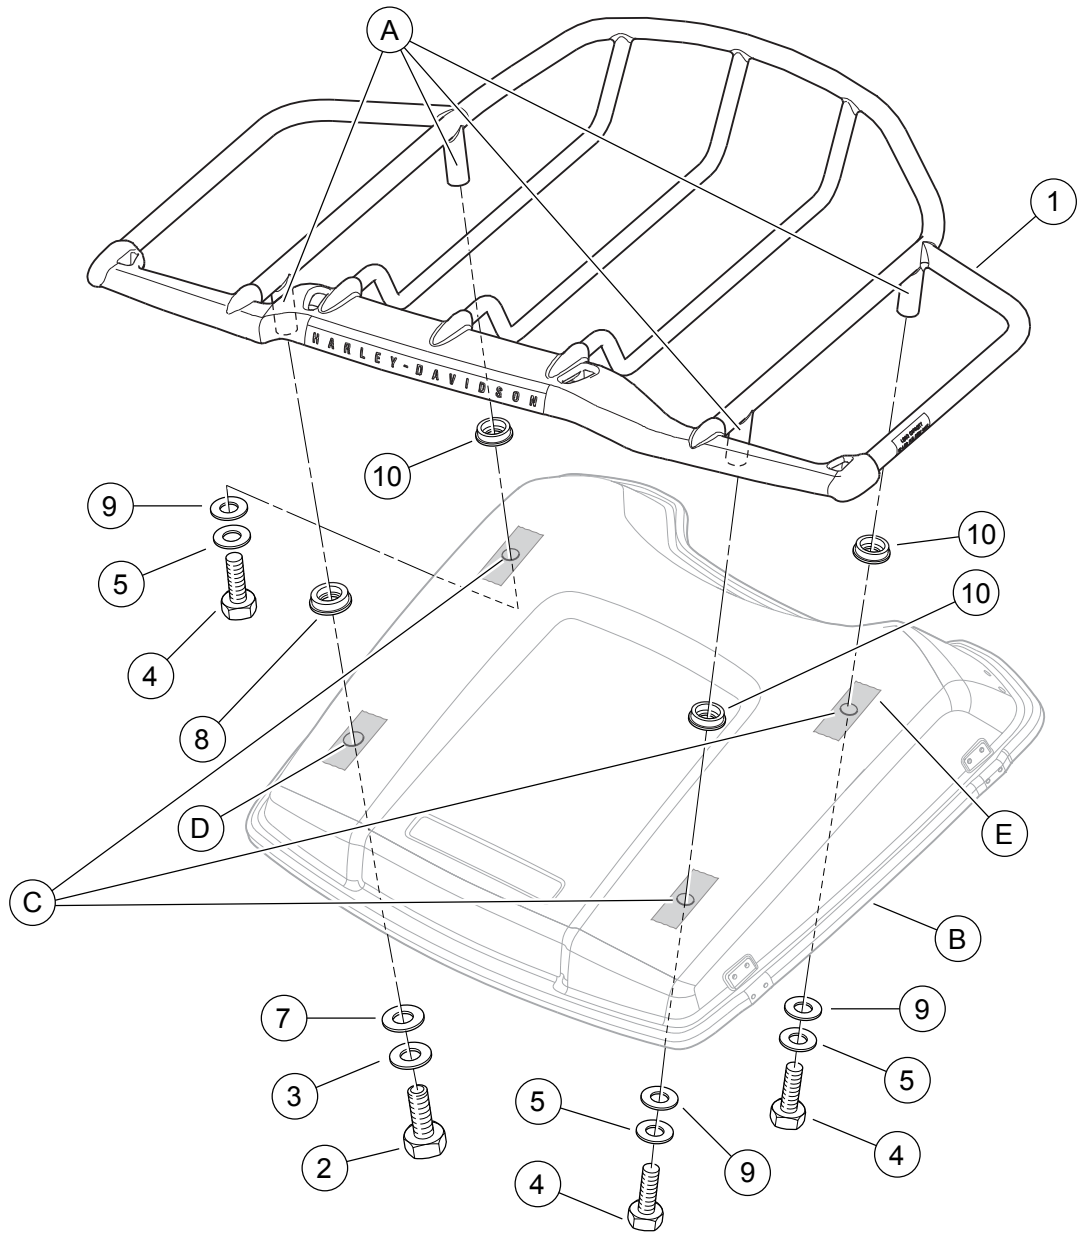

Figure 1. Service Parts, Air Wing Tour-Pak Lid Rack
See Figure 1 and Table 1.
2. See Figure 1. Slip the **larger diameter** mounting pad (8) onto the left-rear leg. Slip the three **smaller diameter** mounting pads (10) onto each of the remaining mounting legs (A). With the Harley-Davidson name to the rear, position the rack on the Tour-Pak lid in the desired location.
4. Apply masking tape (E) to the Tour-Pak lid where the four mounting pads (A) contact the lid. Position the rack on the lid in the same location as in the previous step. Using a soft lead pencil on the masking tape strips, trace a circle around each mounting pad. Remove the rack. Use a ruler to mark the exact center position of the mounting pads on the tape.
5. Drill four 1/16 in (1.5 mm) diameter pilot holes through the masking tape and Tour-Pak lid at the locations marked (C) and (D). Use a **9/32 in (7 mm) diameter** bit to drill three holes through the tape and lid at the locations marked (C). Use a **3/8 in (9.5 mm) diameter** bit to drill a hole through the tape and lid at location (D).